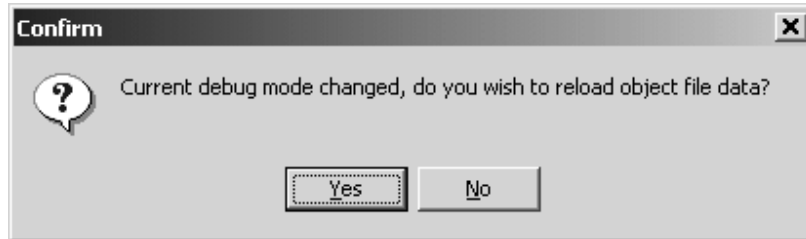

Figure 4-34: Confirm Window
10. Click Yes in Confirm window. (Figure 4-34)